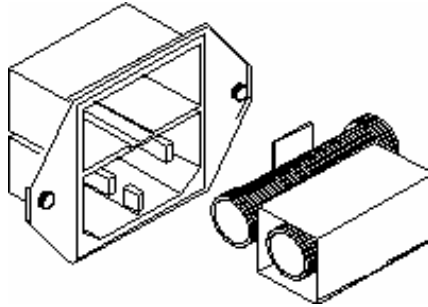

Fig. 5.2.- AC Line Fuse Replacement.
- 3.- Remove the fuse cap as shown in Figure 5.2.